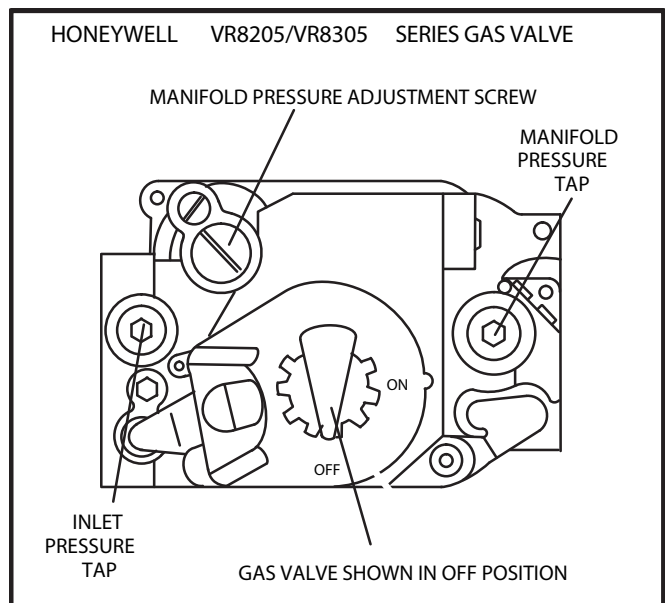

FIGURE 8
GAS VALVE OPERATION FOR HONEYWELL VR8205/VR8305 SERIES GAS VALVE (FIGURE 8)
- 2 – After line pressure has been checked and adjusted, check regulator pressure. Adjust manifold pressure to values specified on the unit rating plate. See figures 8, 9, and 10 for gas pressure adjustment screw location. A natural gas to LP/propane gas changeover kit is required to convert unit in the field. Refer to installation instructions provided with changeover kit for conversion procedure.